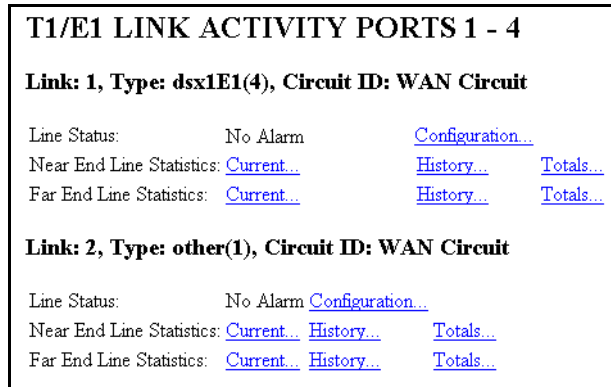

Figure 36. T1/E1 Link Activity Ports 1 – 4 page.
2. *View Link 1* corresponds to the first WAN circuit on the T-DAC. To the right of *View Links 1-4* click the *View Links...* hyperlink to open the T1/E1 LINK ACTIVITY PORTS 1 – 4 page (see figure 36).